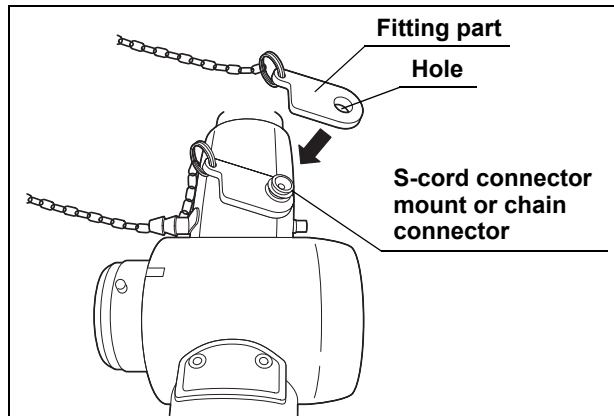

Figure 2.3
5. Place the hole on the fitting part over the endoscope's S-cord connector mount (see Figure 2.3).